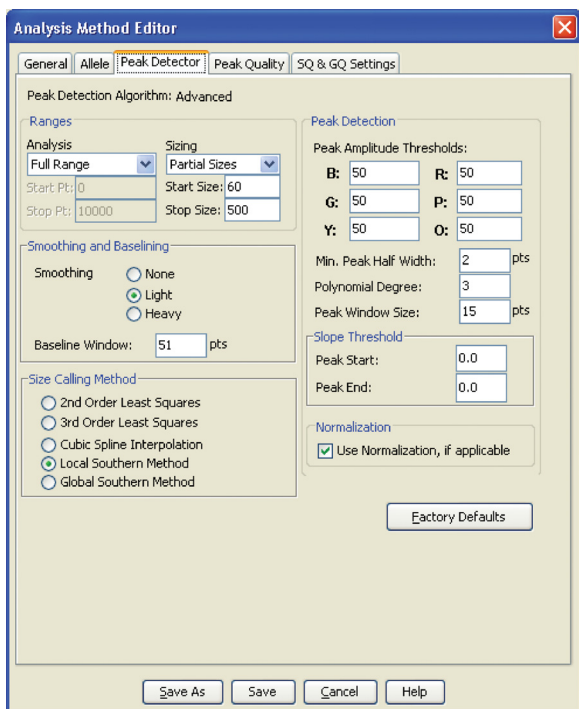

Figure 14. The GeneMapper® ID-X Peak Detector tab.
10. Select the Peak Detector tab. Figure 14 shows an example of settings used at Promega. You may need to optimize these settings. In-house validation should be performed.
9. Select the Peak Detector tab. Figure 14 shows an example of settings used at Promega. You may need to optimize these settings. In-house validation should be performed.